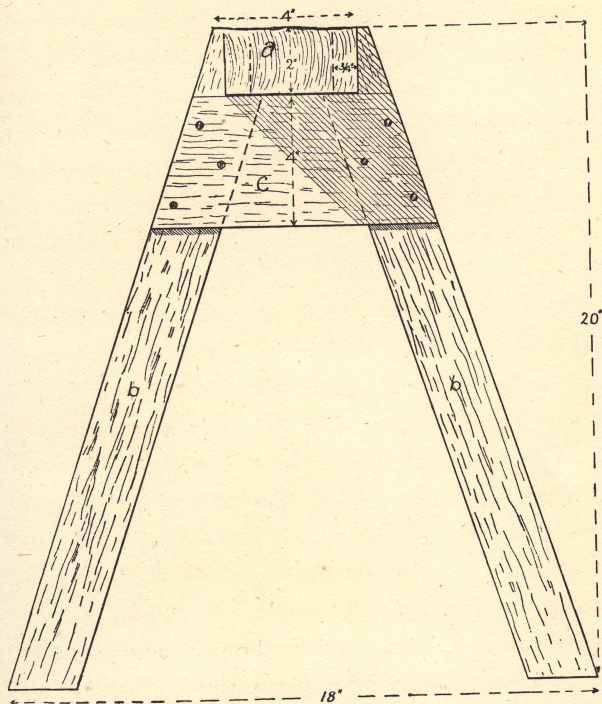

FIG. 3.—End elevation of sawing trestle.
**Truing the Legs.**—Stand the stool on end, top flat against the wall. Measure off a 20-inch perpendicular from the wall to the outside corner of each of the two upper legs. (Fig. 3.) Lay a straight-edge from mark to mark, and draw lines across the legs. Reverse the trestle, and do the same with the legs at the other end. Then turn the trestle on its side, and draw lines on the other outside faces of the legs, using the lines already made as guides. If the operation has been carried through accurately, all eight lines will be in a plane parallel to the top. Cut off the ends of the legs below the lines, and the trestle is finished.